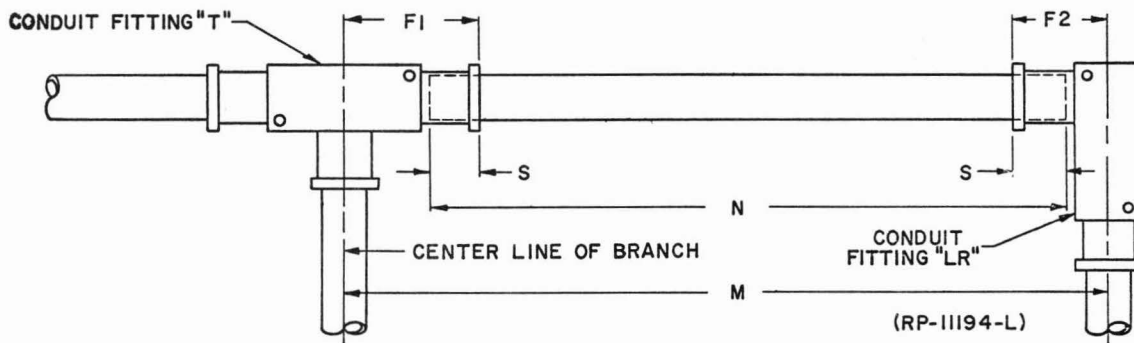

FIG. 1 FINDING THE LENGTH OF CONDUIT REQUIRED BETWEEN TWO FITTINGS (PAR. 3.2)
3.2 To measure a length of conduit (N in Figure 1) to connect two fittings proceed as follows: